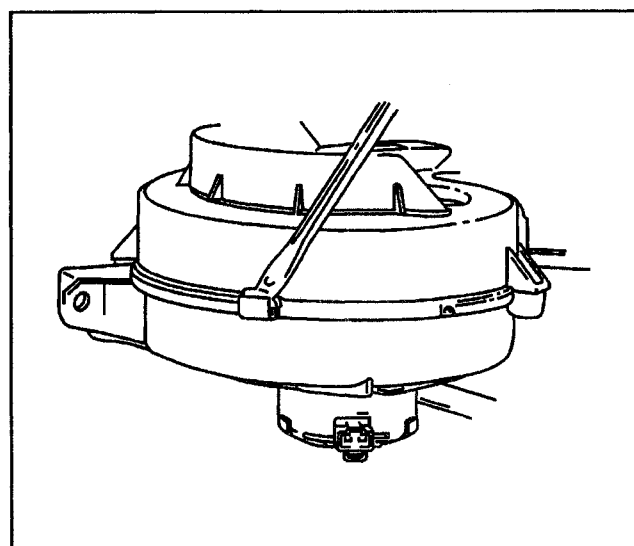

Figure 55—Removing Case Clip
6. Rear heater hoses from auxiliary heater core (32), if equipped. Refer to SECTION 1A.
7. Auxiliary refrigerant hoses (20 and 21) from auxiliary evaporator (26). Refer to "Compressor and Condenser Hose Assembly" in this section.
- A. Remove case clip (Figure 55).
11. Evaporator core (26).
1. Evaporator core (26). Refer to "Refrigerant Oil Distribution" in this section, if replacing evaporator.
- Case clip (Figure 55).
5. Auxiliary refrigerant hoses (20 and 21) to auxiliary evaporator (26).
6. Rear heater hoses to auxiliary heater core (32), if equipped.